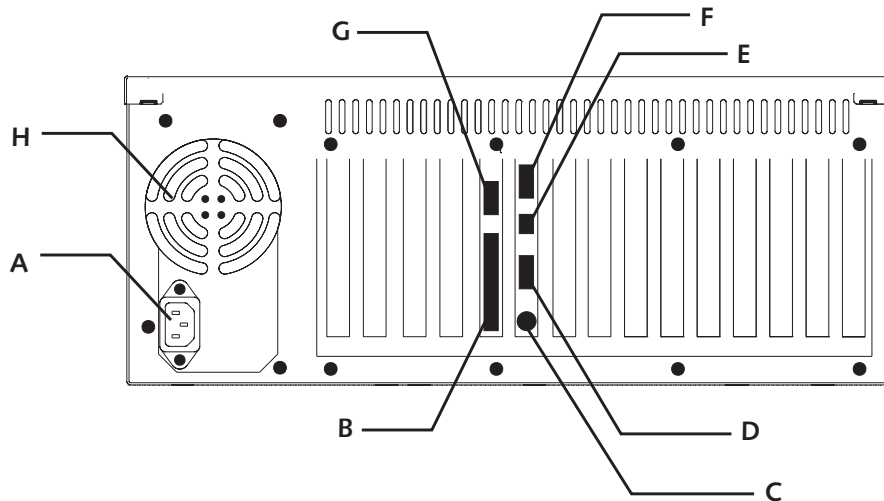

Figure 3. Rear view.
**COM1 serial connector, RS-232:** This RS-232 compatible serial port is located right above the PS/2 keyboard/mouse connector (see figure 3).
**COM2 serial connector, RS-232:** This RS-232 compatible serial port is located above the parallel port (see figure 3).